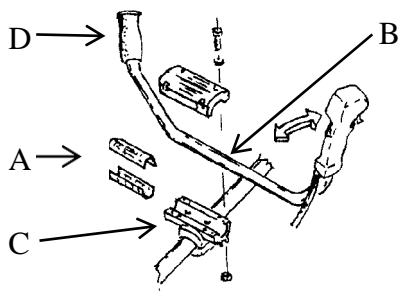

Fig. 4
**Handle-bar:** (Fig. 4). Proceed as follows to lock the handle-bar securely to the rod: insert the two drilled plate half-bearings A between the handle-bar support C and the handle-bar pipe B, then take the handle-bar B and position it so that it can be gripped with the control handle with the accelerator cable in your right hand and the simple grip D in your left hand. After positioning the handle-bar B on the cross C, lock it in place with the cross cover and the four respective fixing screws. Before fixing the handle-bar in place, make sure it is fastened so that your arms and wrists are flexed slightly in normal work position. If you work in such way that only your wrists are flexed and your arms are straight, the force required may be excessive, especially on your right hand, which is under constant strain by the need to continuously work the accelerator trigger.